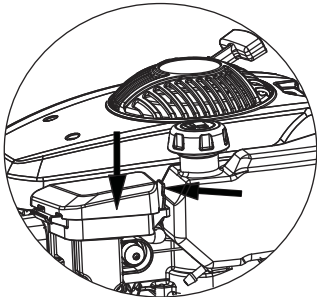

Fig. 16
3.Press down and lock the latch on the air filter compartment. (Fig.16)